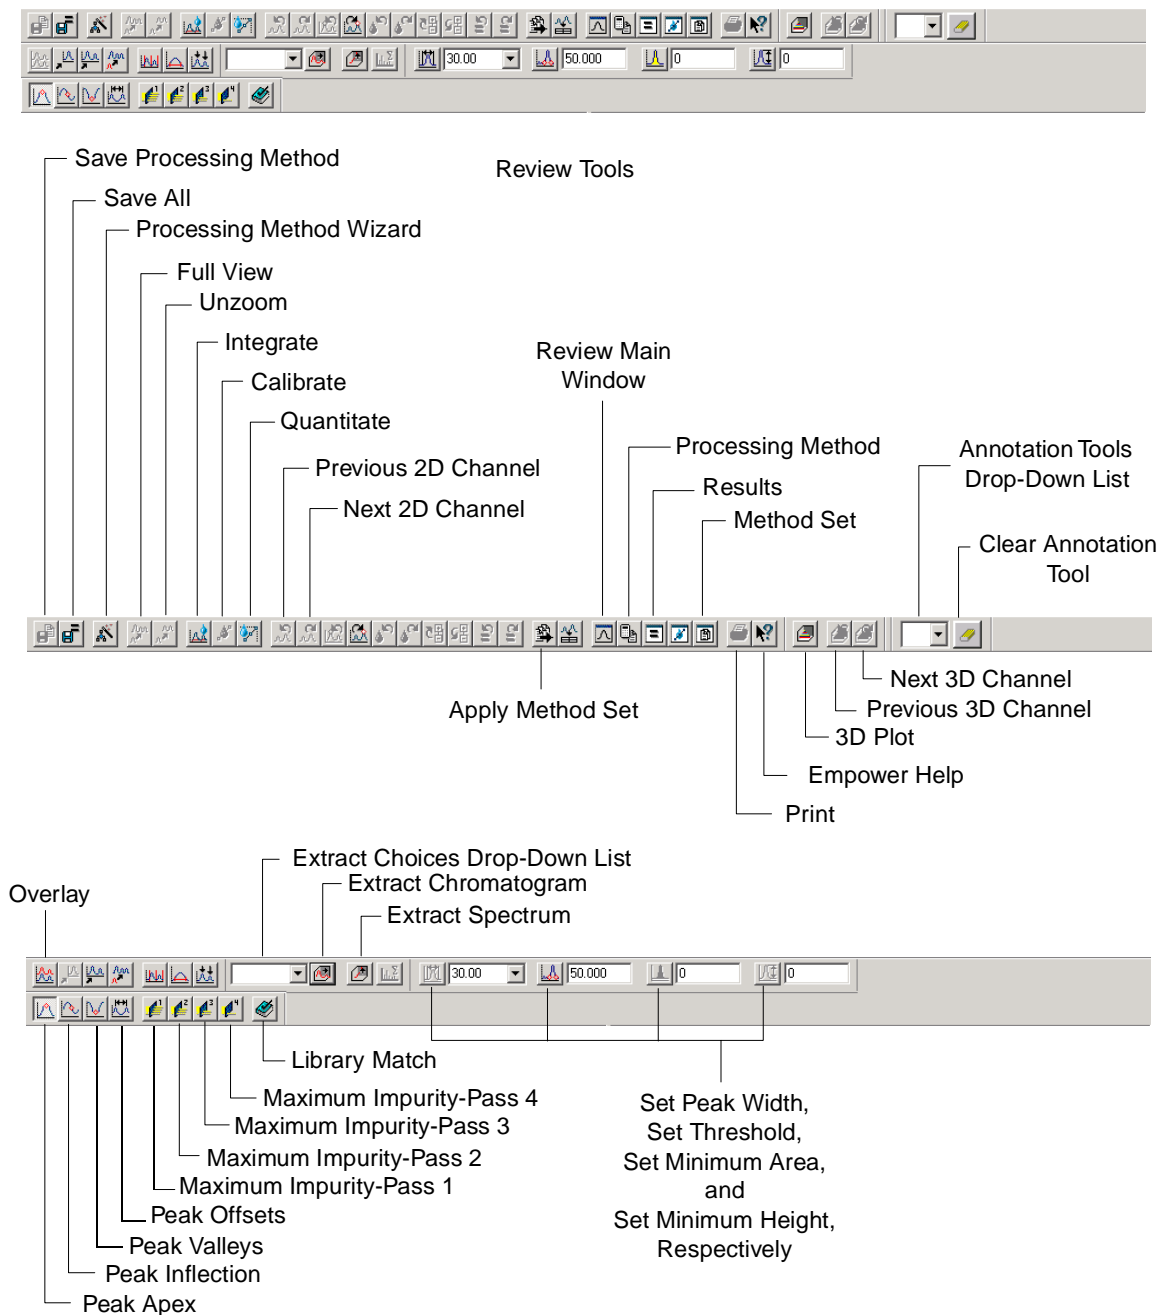

Figure 2-6 Review Toolbar Buttons
6. Figure 2-6 shows the tools you can use as shortcuts in Review. This figure shows the toolbar separated into two rows in order to label the tools.
2. Click  (**3D Plot**) or select **Window > 3D Plot** (Figure 2-6) to view the 3D plot.